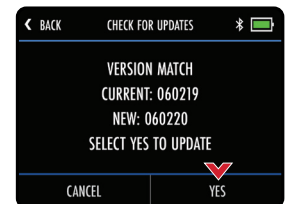

Fig 3 - Check for Updates
4. If there is newer firmware, you will see an option to select "Yes" or "Cancel" (fig. 3)